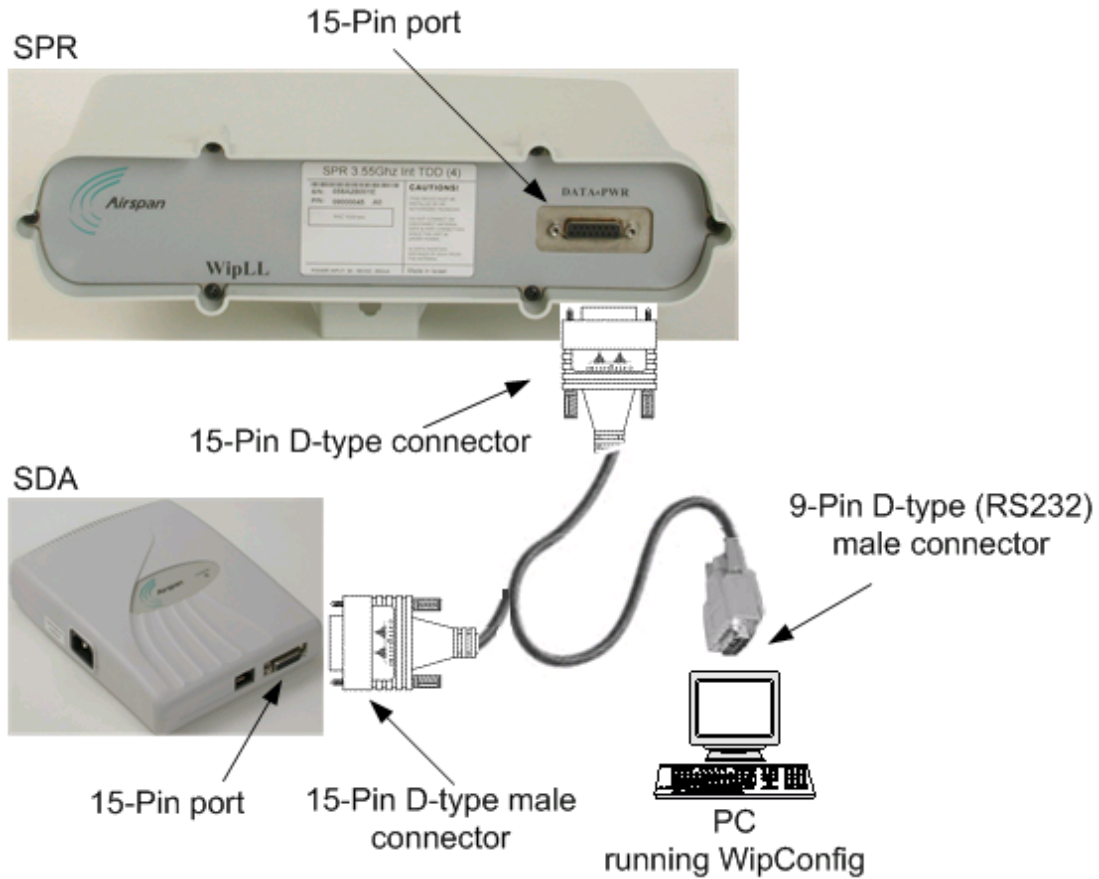

Figure 8-16: SPR cable connections for serial configuration
1. Connect the **15-pin D-type male** connector (P1), at the one end of the Y-cable, to the SPR, as displayed in Figure 8-16.
2. Connect the **15-pin D-type male** connector (J1), at the other end of the Y-cable, to the SDA, as displayed in Figure 8-16.
3. Connect the **9-pin D-type** (RS232) connector (J2), at the other end of the Y-cable, to the PC, as displayed in Figure 8-16.